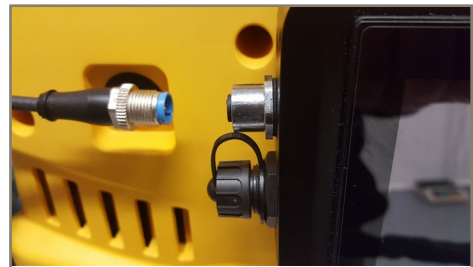

Figure 40
4. You will be navigated to the pump's main screen, containing a digital pressure gauge, pump option, cycle count, battery life, and a START/STOP button (Figure 40).